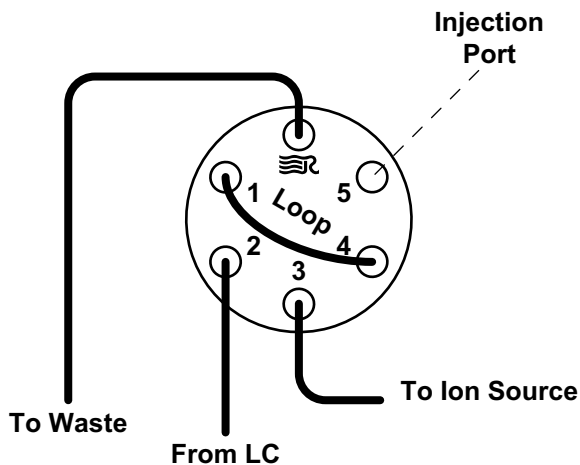

Figure 5-4. Divert/inject valve, showing plumbing for manual loop injection
4. Remove the sample transfer line that is installed between the syringe adapter assembly and port 5 of the divert/inject valve. Port 5 is now used as the injection port. See Figure 5-4.